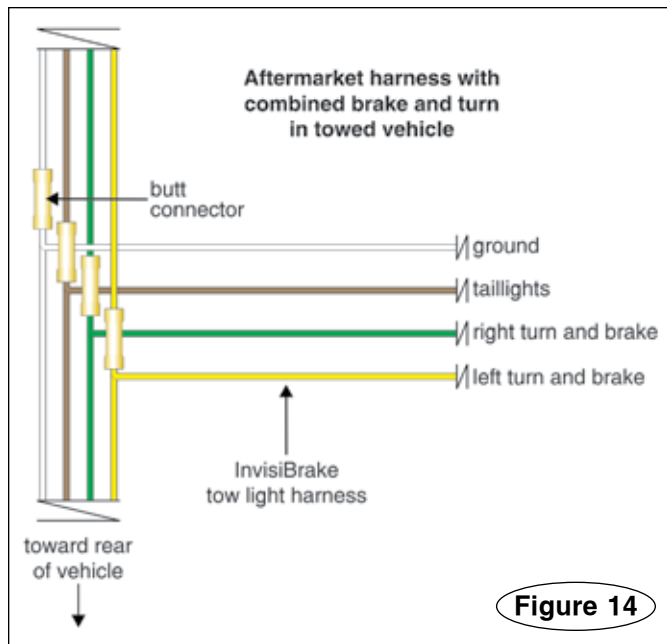

Figure 14
4. Refer to Figure 14 or 15 to attach the four-wire flat harness.